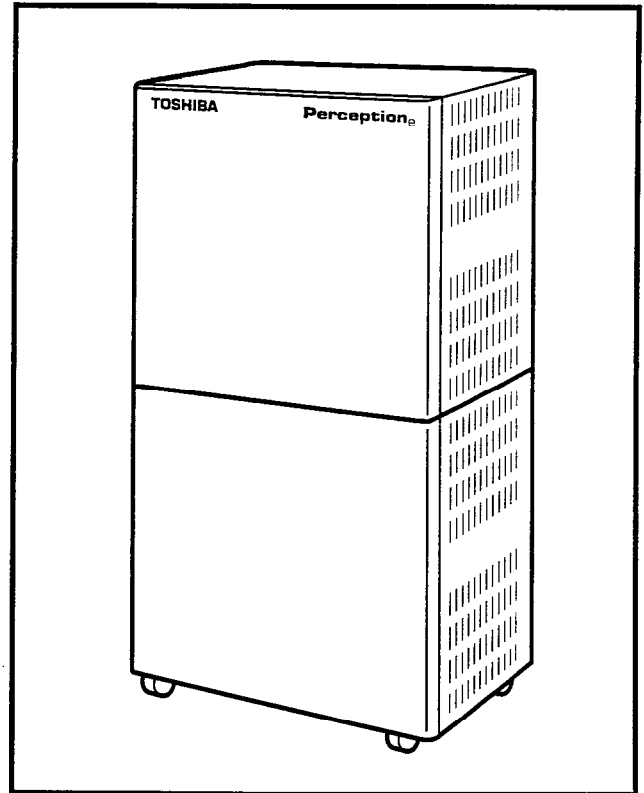

FIGURE 2-2—PERCEPTION_e EXPANSION CABINET
1.11 The expansion cabinet (NCEC-S) is a single cabinet that mounts on top of the basic cabinet and is secured in place with four bolts. The cabinet houses two shelves for printed circuit card installation. MDF connections are facilitated by amphenol connectors located on the rear of the cabinet (Figure 2-2).